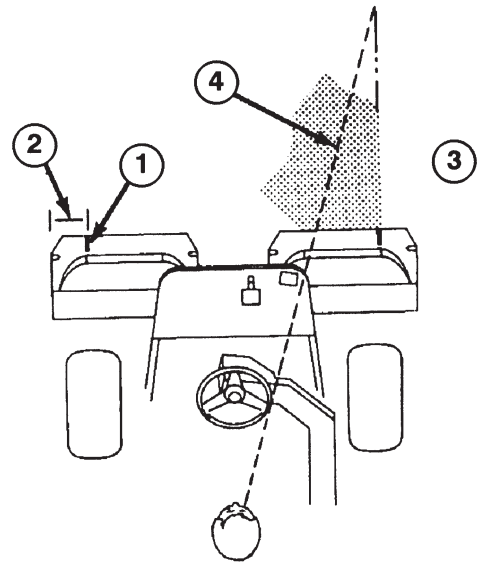

Figure 13
2. Either place a strip of white tape or paint a line onto each basket paralleling the outer edge of each basket (Fig. 13)